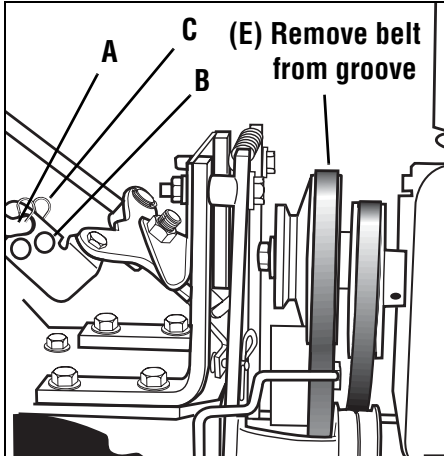

Figure 5-9: Disconnect Forward Clutch Rod and move forward drive belt out of groove in engine forward drive pulley.
1. Checking for correct belt tension is the same as that described in item 5, *Step 4: Attach Forward Clutch Rod*. Before checking, shut off the engine, disconnect the spark plug wire, and allow the engine and muffler to cool down. If, after following the adjustment procedures, you cannot get the correct gap on the forward clutch rod adjustment bracket, you will need to make a secondary adjustment as described next.
2. Disconnect the Forward Clutch Rod (A, Figure 5-9) from the swivel plate (B) by removing the innermost hairpin cotter (C).